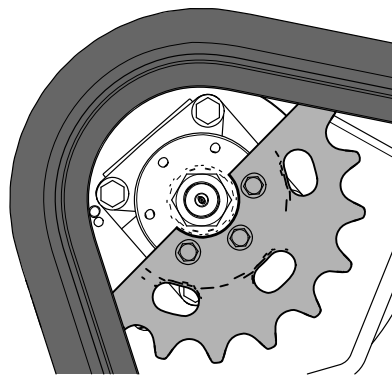

Figure 29
11. Move the traction control forward until the other half of the drive sprocket is not engaged with the track (Figure 29).